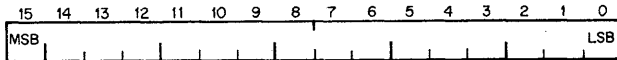

Figure 1-2 Data Line Bit Format
1.1.1.1 Data Lines (D<15:00>) - The 16 data lines are used to transfer information between master and slave. The bit format is shown in Figure 1-2.